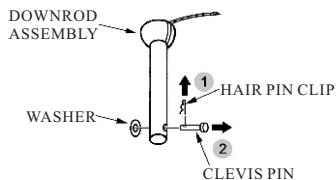

FIG.3
1. Remove the hairpin clip & washer from the clevis pin and remove clevis pin from down rod. (See fig.3)